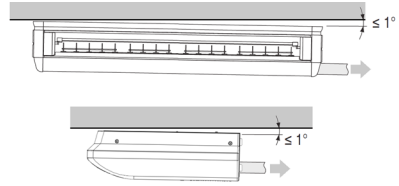

fig. 11
-Ensure a minimum inclination towards the outflow side to avoid water stagnation in the basin (fig.11).